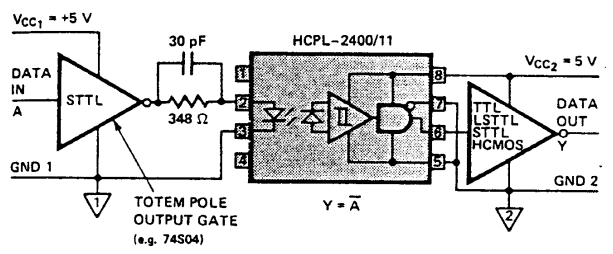

Figure 13. Recommended 20 MBd HCPL-2400/11 Interface Circuit
- This specification simulates the worst case operating conditions of the HCPL-2400/11 over the recommended operating temperature and Vcc range with the suggested applications circuit of Figure 13.
A recommended application circuit for high speed operation is shown in Figure 13. Due to the fast current switching capabilities of Schottky family TTL logic (74STTL), data rates of 20 MBd are achievable from 0 to 70°C. The 74S04 totem-pole driver sources current to series-drive the input of the HCPL-2400/11 optocoupler. The 348 Ω resistor limits the LED forward current. The 30 pF speed-up capacitor assists in the turn-on and turn-off of the LED, increasing the data rate capability of the circuit. On the output side, the following logic can be directly driven by the output of the HCPL-2400/11 since a pull-up resistor is not required. If desired, a non-inverting buffer may be substituted on either the input or the output side to change the circuit function from $Y = A$ to $Y = \bar{A}$. This circuit satisfies all recommended operating conditions.